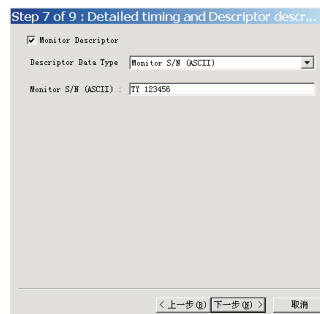

Fig. 41
6. Click Next, bring up Fig. 41. In this step, please confirm the Descriptor Data Type is Monitor Range Limits, and all the items are same as below.